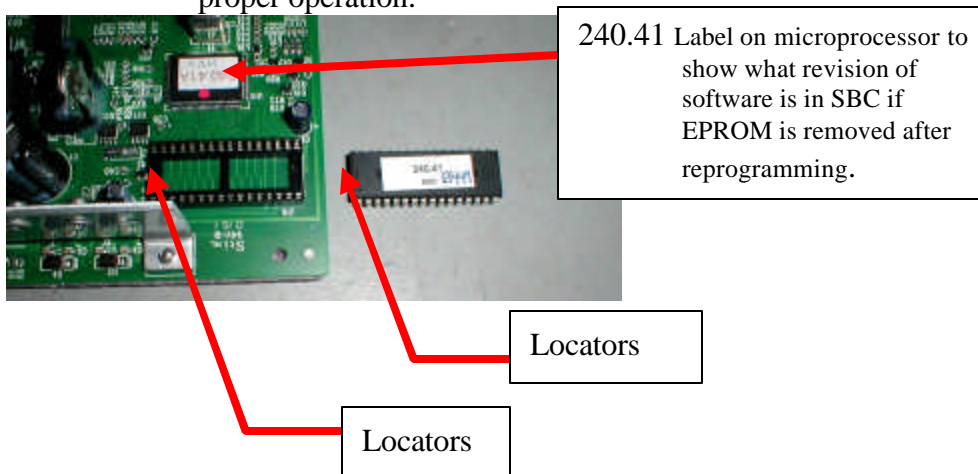

Figure 1
- Install the new EPROM in the EPROM socket. Ensure the EPROM is oriented correctly with its reference marker (locator) in the same direction as the reference marker (locator) of the EPROM socket. Do not rely on the EPROM label for orientating the EPROM. See Figure 1.